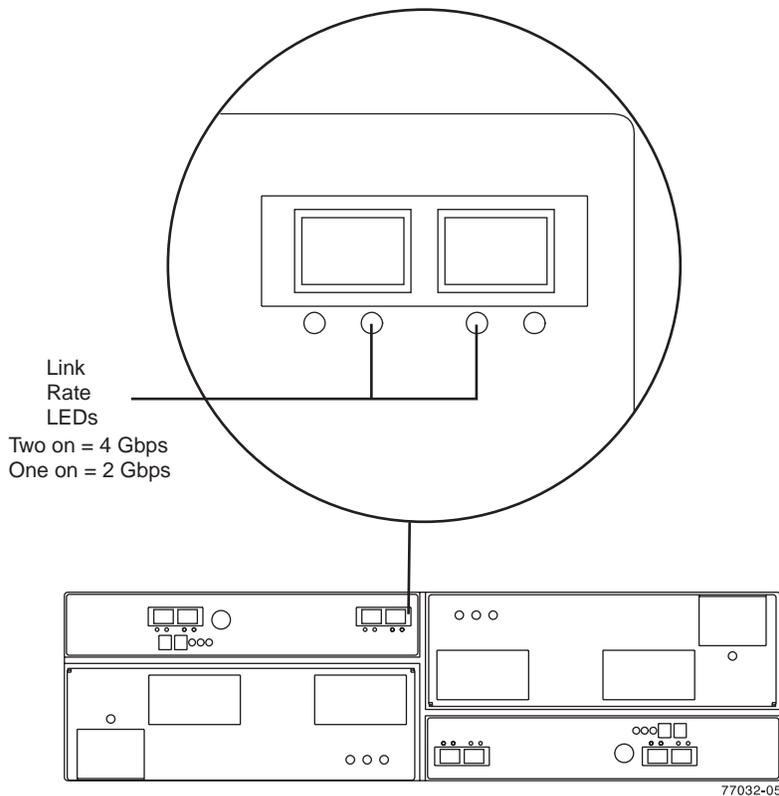

Figure 45. Link rate LEDs
2. Locate the Link Rate indicator LEDs. Figure 45 on page 88 shows the location of the Link Rate indicator lights on the back of the storage expansion enclosure.